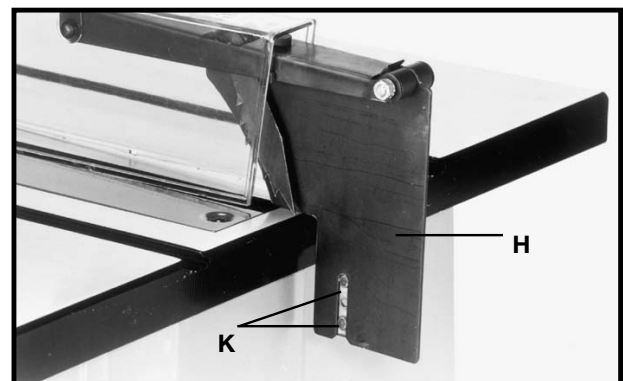

Fig. 18
6. Position the splitter (H) Fig. 18, on the splitter support bracket as shown, making certain the two protrusions (K) on the splitter support bracket are inside the slot of splitter (H).